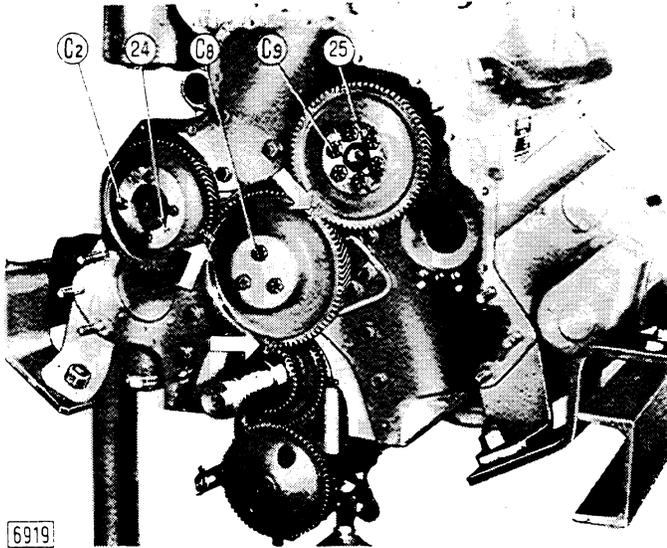

Fig. 31 - Refitting the Valve Timing Gear
- Re-position the gears over the associated shafts taking care to align reference marks 1-1, 2-2 and 3-3, as shown in Fig. 31, fitting the idler gear last. This is necessary because the other two timing gears have their assembly position restricted by dowel (24 and 25).